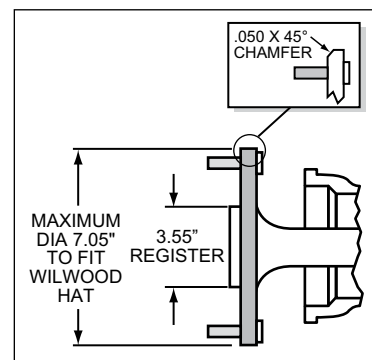

Figure 2. Axle Flange Maximum Dimension
- Axle center registration diameter is 3.55", Figure 2.
- Maximum axle flange diameter must be no larger than 7.05" w/.050" x 45° chamfer (Figure 2).